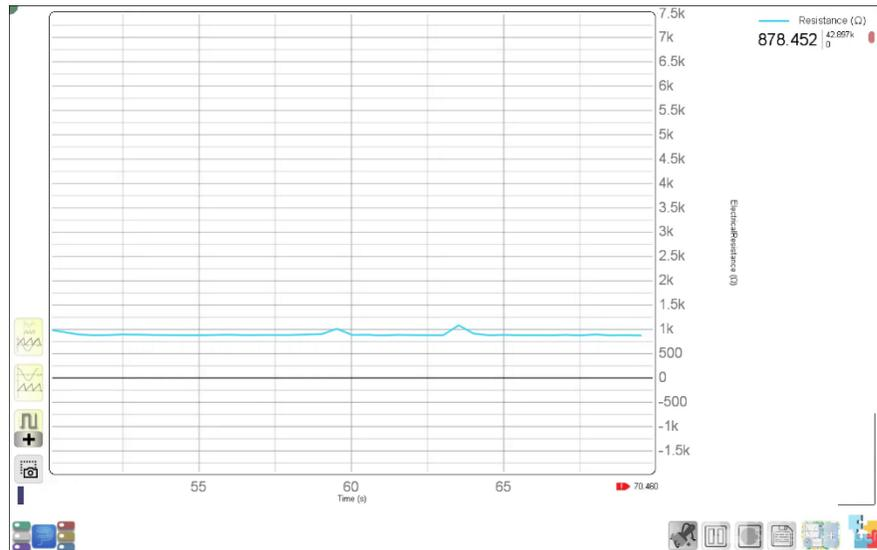

Figure 6: A live plot of the resistance obtained in PhysLogger App using R-Probe.
5. Plot a live graph of resistance. The resistance value displayed on the live plot should be the same as the resistance measured by DM3068 Rigol Multimeter as shown in Figure 6.